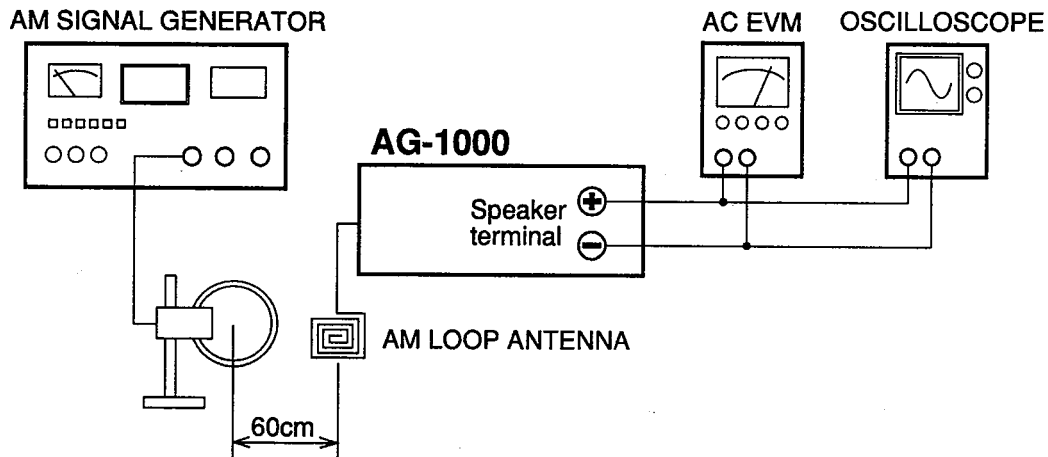

Fig. 1
1. Test equipment connections are shown in fig. 1.